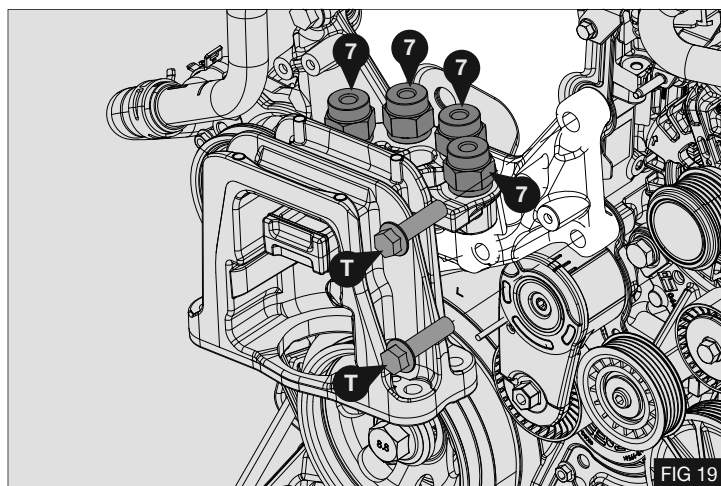

FIG 19
3. Repeat previous step for the remaining x3 studs (U) - Fig 19/18
4. Remove and discard engine mount bolts (T) - Fig 19
5. Assemble the Idle pulley (13) onto tensioner bracket (2) using Spacer (14) with Eye bolt (12) and pulley nut (15), Insert adjuster bolt (27) with M8 washer (28) - Fig 19